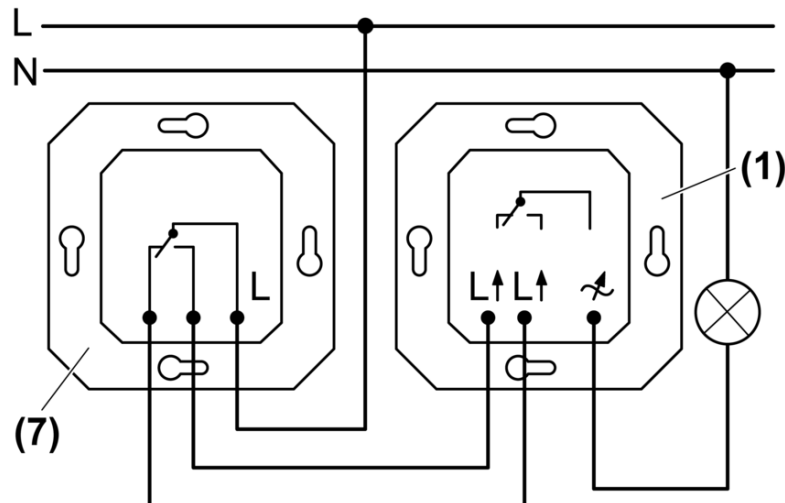

Figure 3: Changeover switch
- Connect the dimmer (1) and the changeover switch (7) according to the connection diagram (Figure 3).